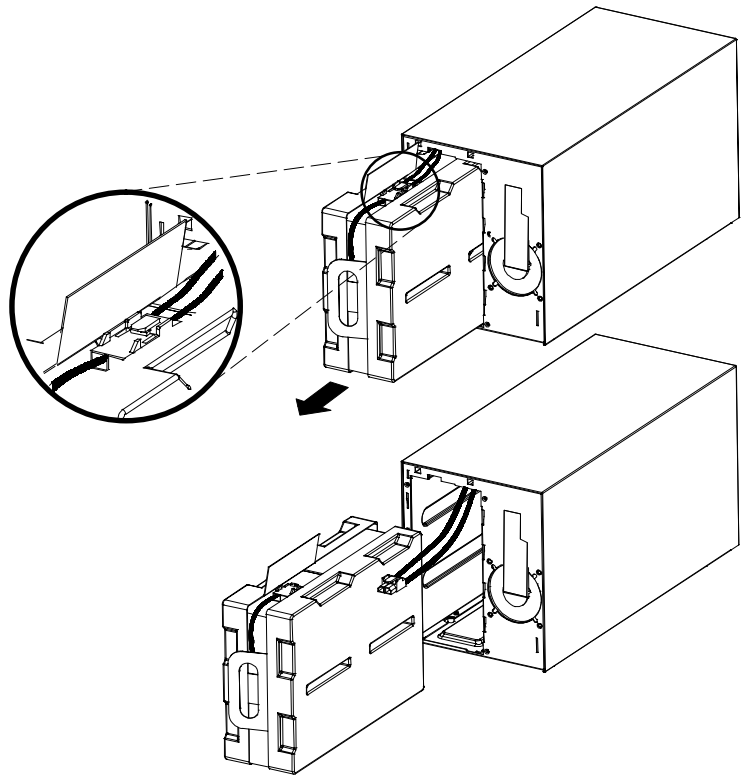

Figure 26. Battery Removal (1500 and 2200 VA Models)
- 4. 1500 and 2200 VA models.** Pull the battery out onto a flat, stable surface (see Figure 26). Press on the black tab on the battery cable connector to disconnect the battery.